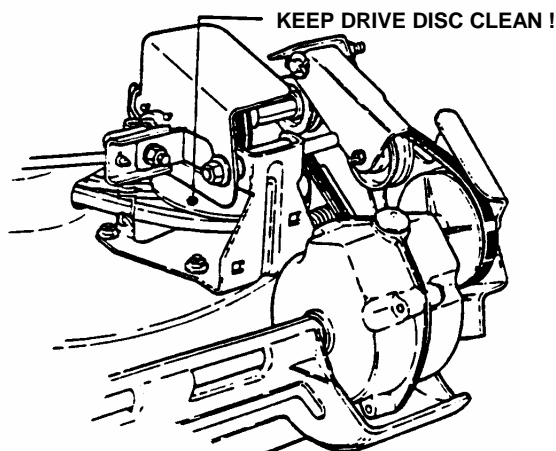

FIGURE 3.3
**NOTE:** Do not spill grease or oil on surface of drive disc. See Figure 3.3.